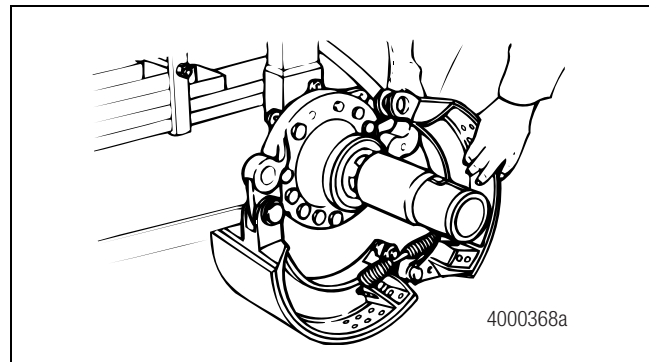

Figure 5.25
7. Install a new shoe return spring onto the brake shoe. Figure 5.25. Place the upper brake shoe into position over the spider. Repeat Steps 4-5.